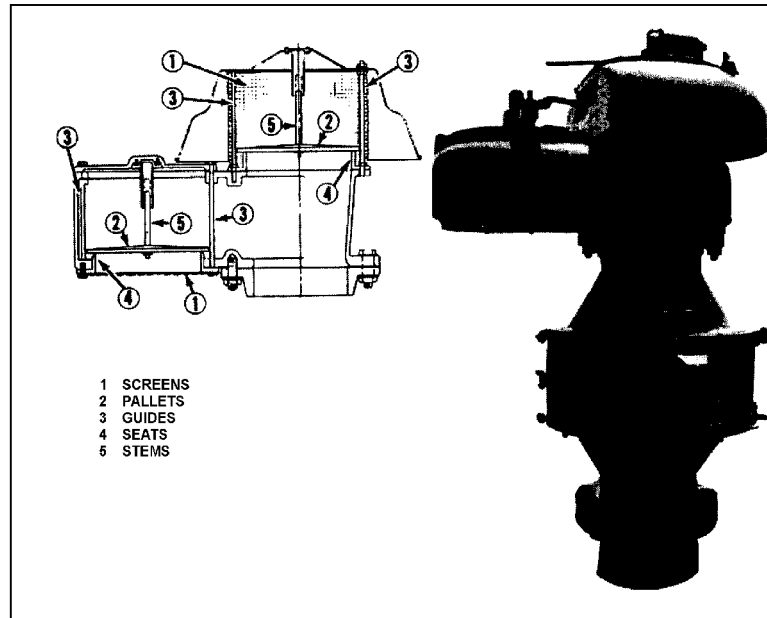

Figure 1-1. Pressure-vacuum breather valve.
- **Pressure-vacuum vent.** The pressure and vacuum vent (breather valve) (Figure 1-1) is an automatic device designed to reduce evaporation loss and to help relieve excessive pressures or vacuums built up during operations or as a result of atmospheric temperature variations. The vent consists of a pressure section and a vacuum section. Each section opens according to a predetermined setting. To ensure efficient operation, vents should be inspected monthly.